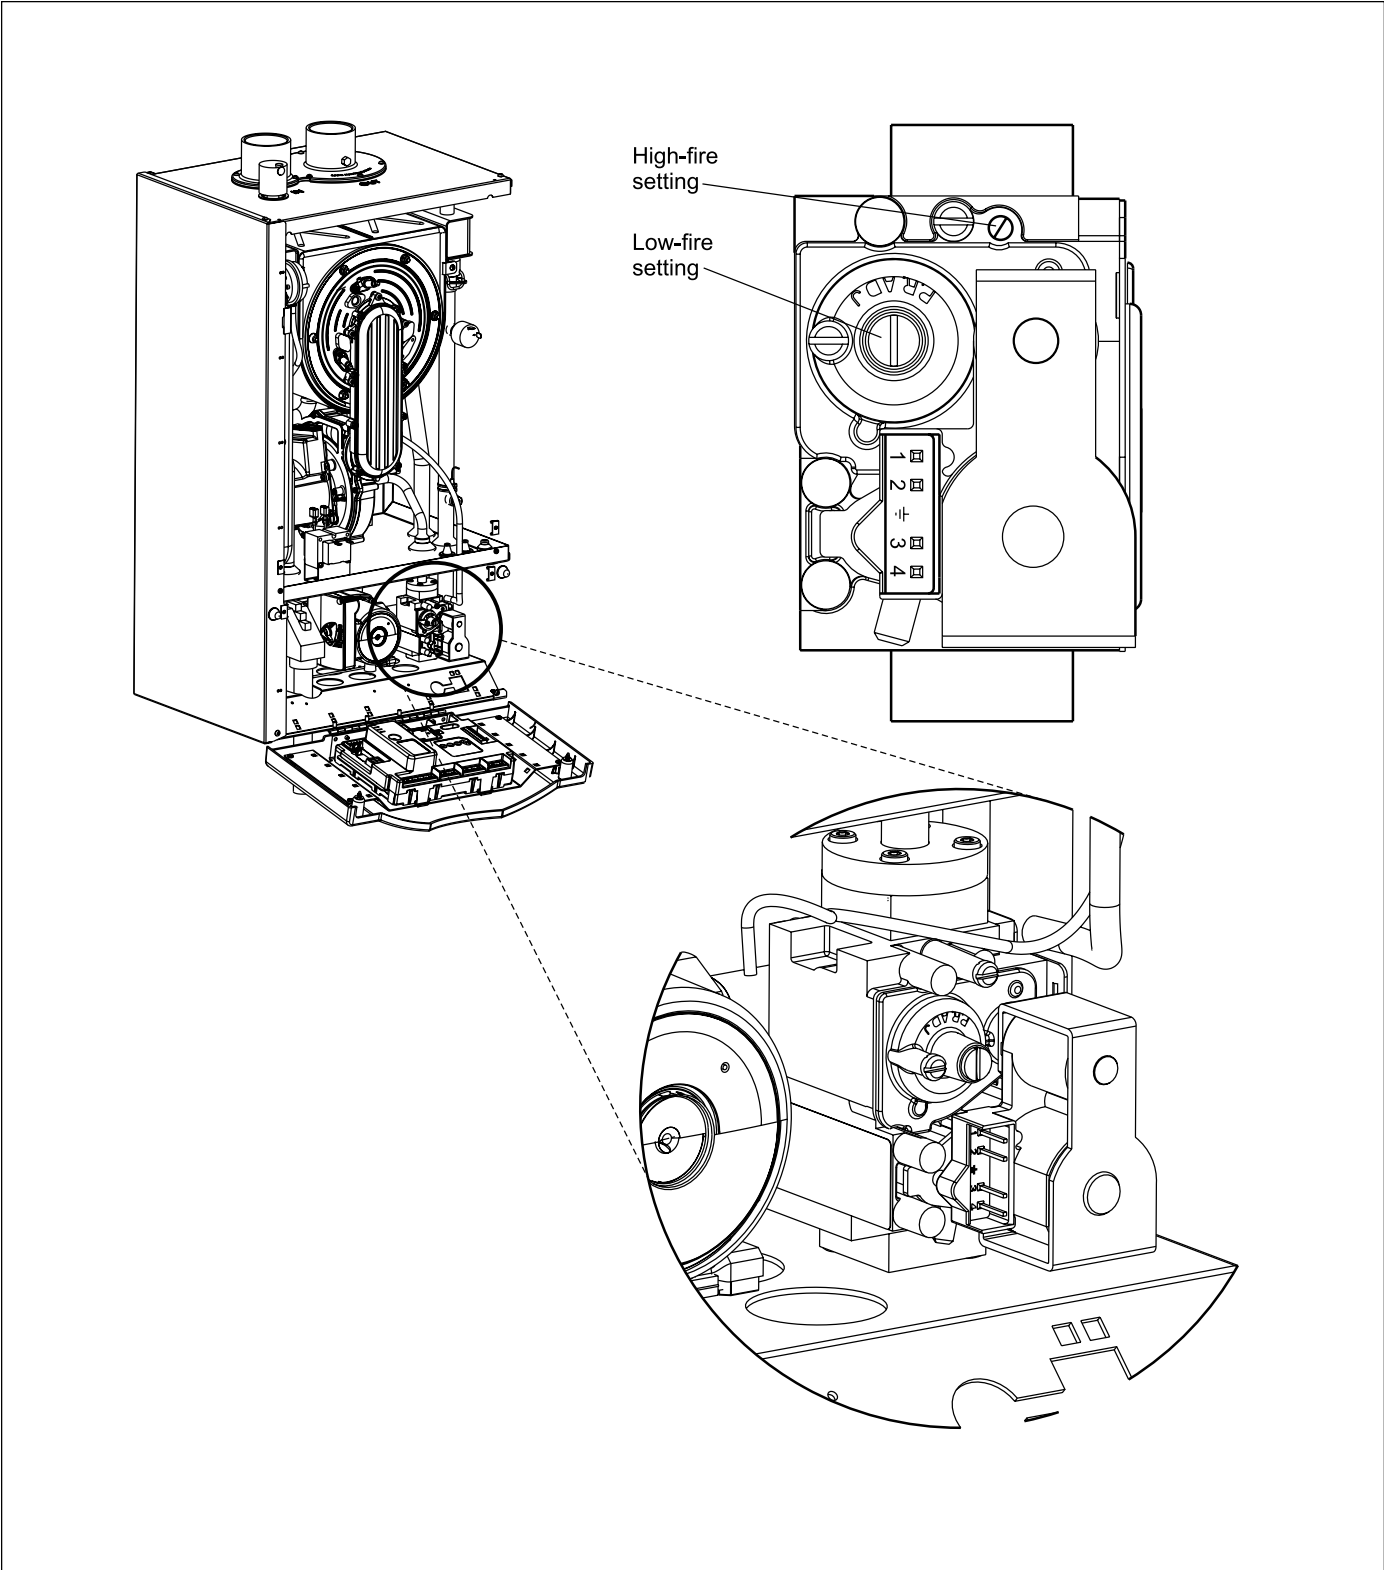

Figure 25. Adjustment Screws and Settings for CO2.
2. Measure the CO2/O2 in the flue products at low fire. Mascot II can be forced to low fire to allow for easier setup. Refer to Section 8.1, Table 11 for instructions on how to access the forced rate menu. CO2 readings should be between the values shown in Table 13. If the CO2 is not within the range shown, adjustments may be made. To adjust the low fire CO2, locate the low fire adjuster screw according to the appropriate figure. Slowly make adjustments in 1/16 of a revolution increments until the CO2 is within the range identified (see Figure 25).